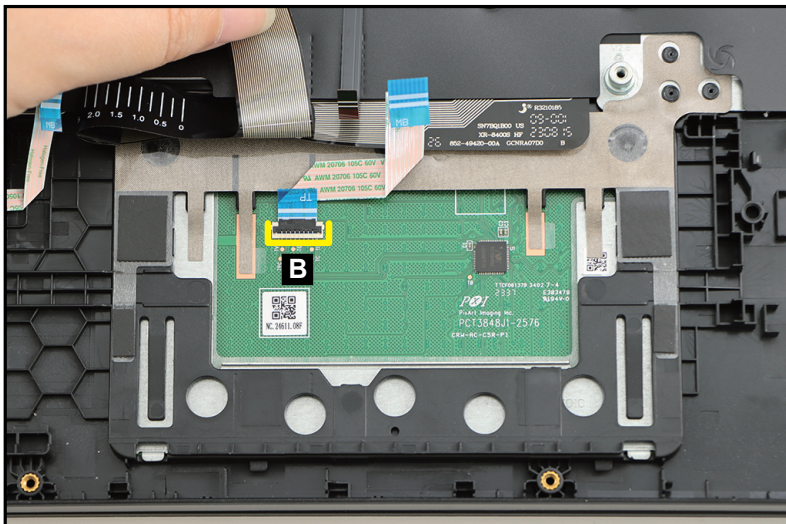

Figure 1-41. Touchpad Module Removal
3. Disconnect the touchpad FFC (B) from the touchpad module connector (Figure 1-41). Then remove the FFC.